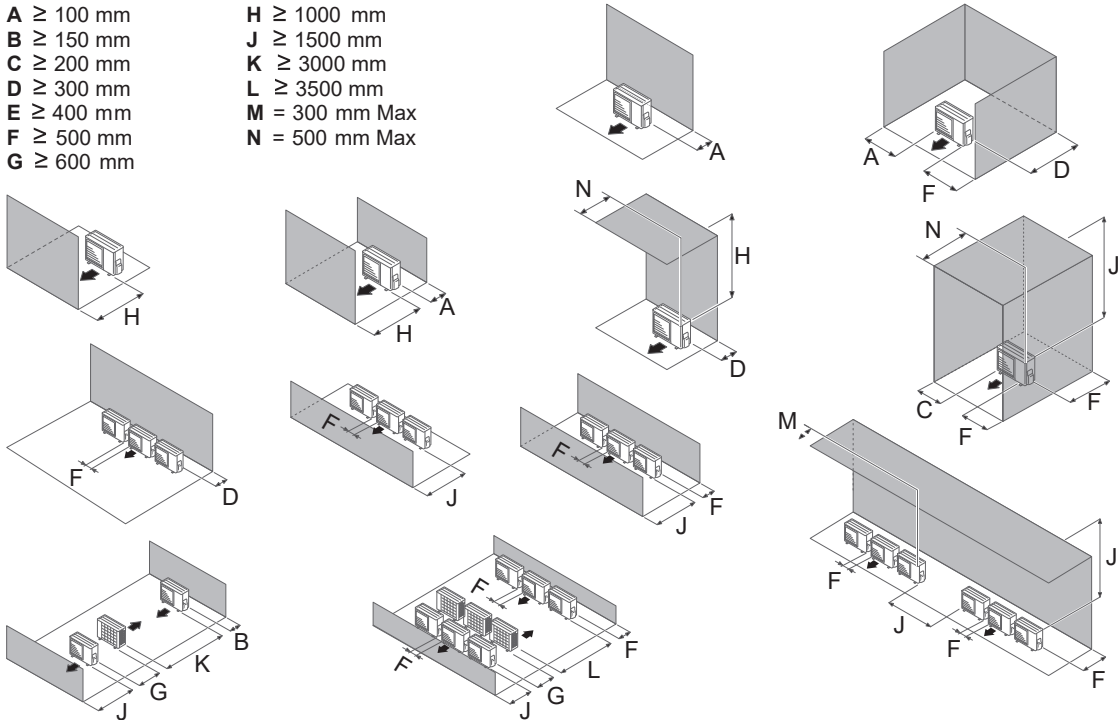

Figure 3. Heat Pump - Clearances
**⚠ CAUTION:** The product is not to be obstructed by any surrounding objects or surfaces as this can limit access and adversely affect performance. The minimum clearances that are shown in *Figure 3* should be always maintained